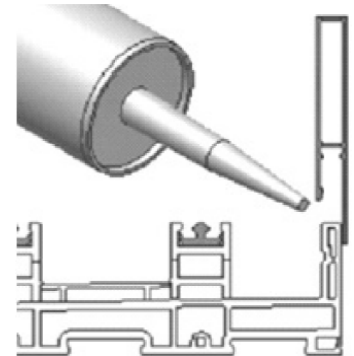

Figure 8
3. **If a by-pass door**, locate the sill riser (Item 17, 18, 19, or 20). Line the riser up with the frame sill and apply a small bead of sealant along the top of the frame sill (Figure 8). Secure the riser with a rubber mallet, ensuring it snaps into place.
8. The sill riser will require trimming in order to butt up against the P-hook (Figure 7). Line the sill riser up with the frame sill and apply a small bead of sealant to the top of the sill (Figure 8). Secure the sill riser into place with a rubber mallet, ensuring it snaps into place.